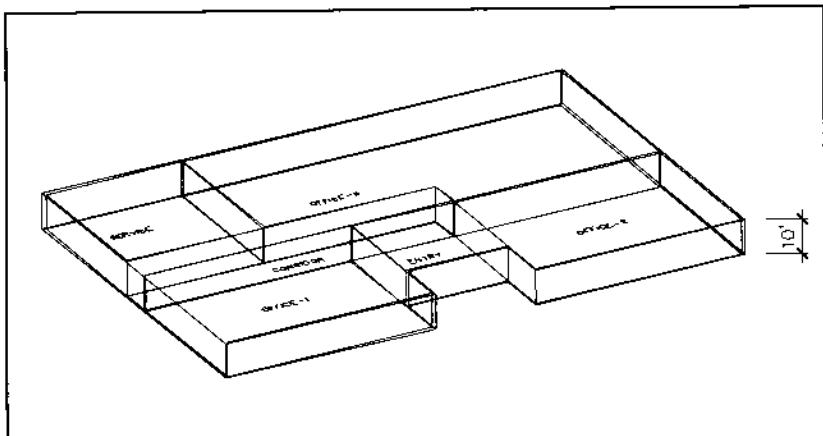

Figure 13.
3. Select each of the Display Walls options described below. (The isometric view created by the Vpoint command in Figure 13 shows that work is being drawn as both two- and three-dimensional lines.)